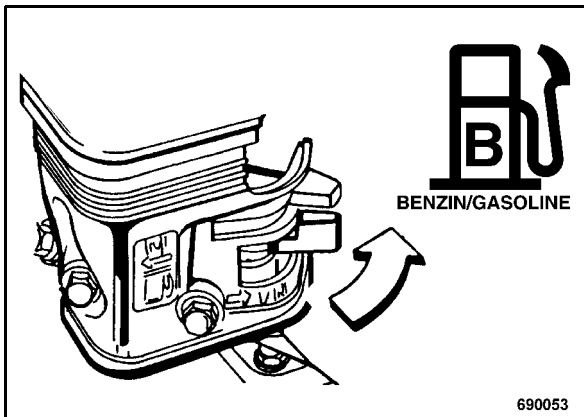

Fig. 53
- Open the fuel tap (Fig. 53) by turning in direction of arrow.